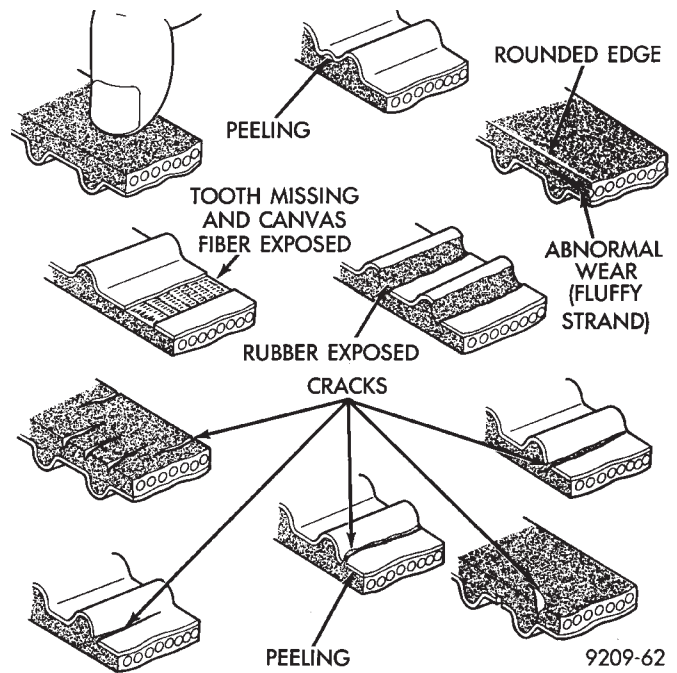

Fig. 116 Timing Belt Inspection
(1) Remove the accessory drive belts. Refer to Group 7, Accessory Drive System for procedure.
(2) Remove timing belt covers. Refer to procedure outline in this section.
(3) Inspect both sides of the timing belt. Replace belt if any of the following conditions exist:
- Abnormal wear of belt sides. The sides are normal if they are sharp as if cut by a knife (Fig. 116).
(4) If none of the above conditions are seen on the belt, the belt cover can be installed